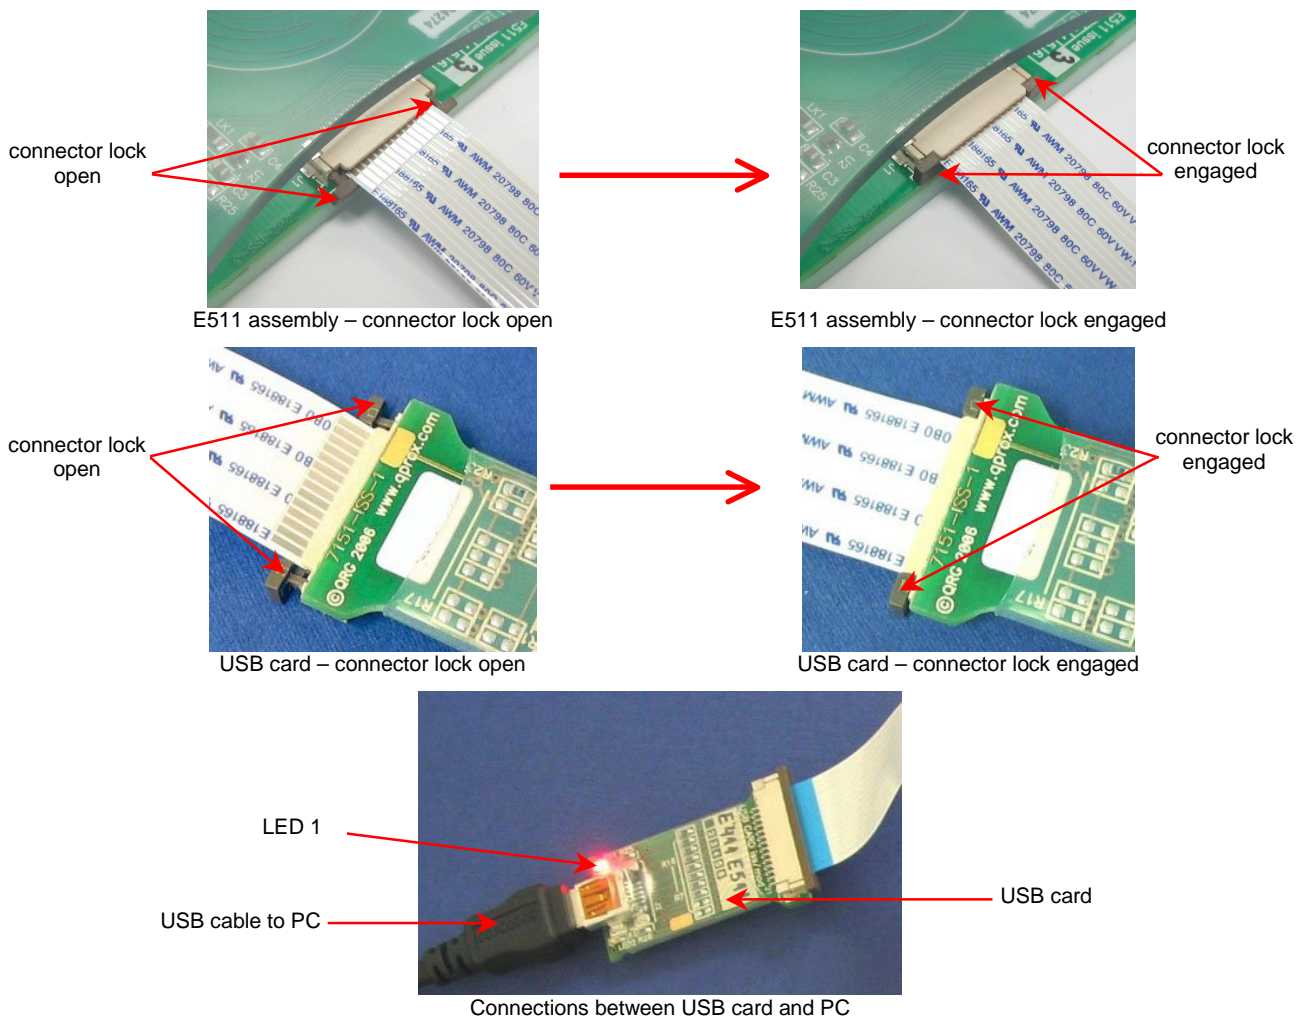

Figure 3: E511 and USB Connectors
1. Using the flat flexible cable (FFC) provided, connect the E511 assembly to the USB-SPI adapter card, ensuring correct orientation of the FFC. With the E511 connector lock open (*Figure 3*), carefully insert the end of the cable into the connector. Once fully inserted, push the connector lock tabs to close them. Check that they are fully engaged. Repeat for the USB-SPI adapter card.